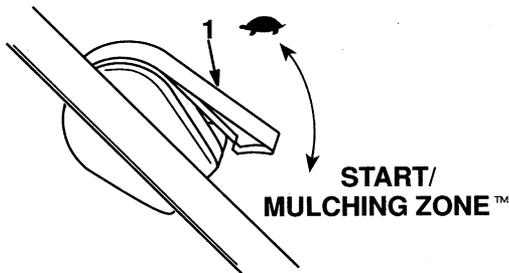

Figure 11
1. Move throttle lever to START/MULCHING ZONE™ position (Fig. 11).
1. Move throttle lever to SLOW  position (Fig. 11).